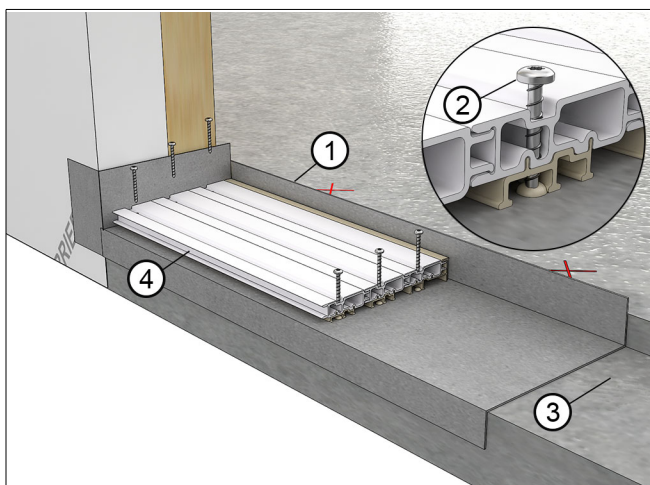

Figure 10 Install sill slope
6. Set the sill slope in the slot and fasten into the rough opening sill with a minimum #8 x 2 1/2" (64) pan head screw appropriate for your structure. The screw must penetrate at least 1 1/4" (32) into the subsill. See Figure 10.